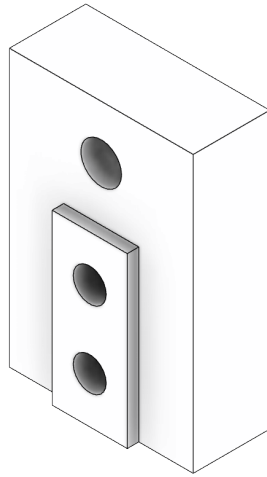

Figure 2.1: Reference interconnection bracket. The other interconnection brackets lack the relief on the side facing the detector
**Additional information:** The reference interconnection bracket (fig. 2.1) distinguishes itself from the other interconnection brackets due to the presence of a relief on the side facing the MDC.